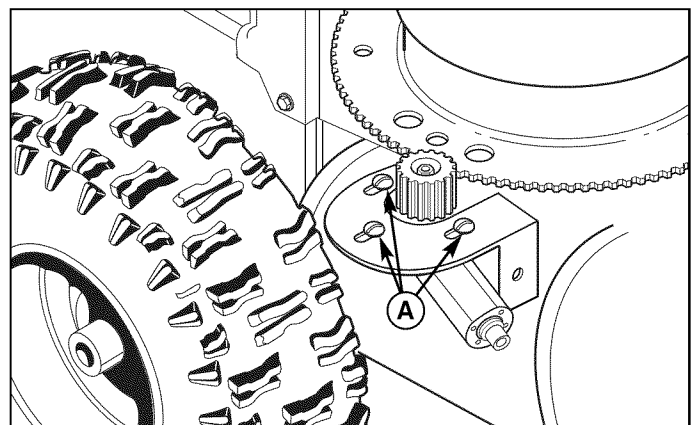

**Figure 21. Gear Bracket Adjustment**
1. Loosen the gear bracket mounting nuts (Figure 21).